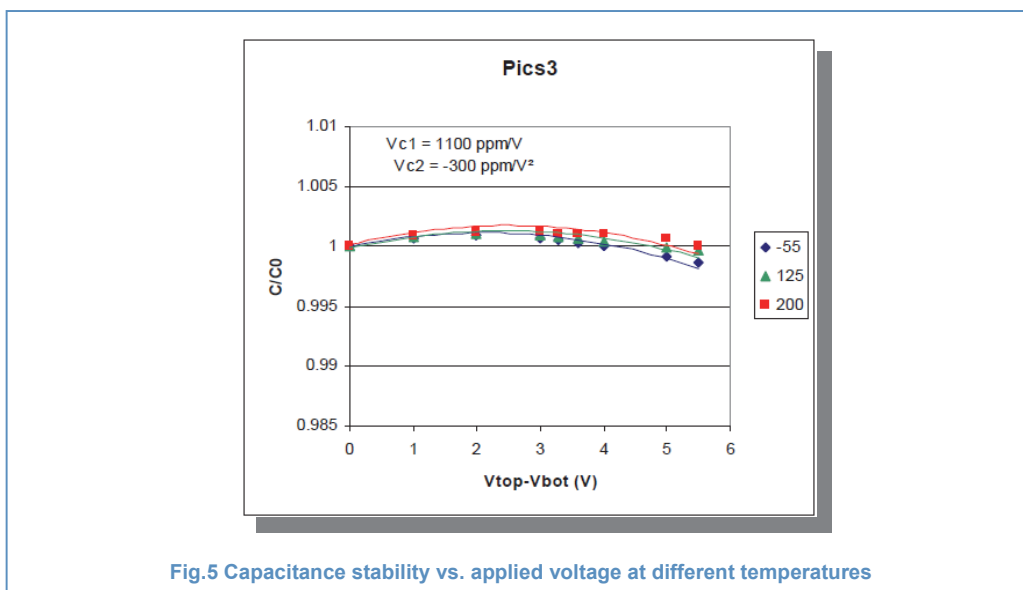

Fig.5 Capacitance stability vs. applied voltage at different temperatures
- the capacitor value stability over the voltage applied (see Fig.5 & 6)